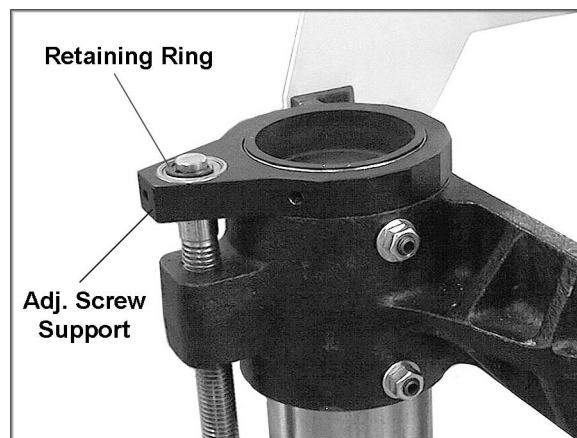

Figure 24
5. Next, check the position of the height adjustment screws: First raise the conveyor table. Then check the retaining ring at the top of the height adjustment screw on the outboard side (Figure 24), and the retaining ring under the height adjustment handle on the inboard side of the machine. Both retaining rings should be snug on their respective bearings.